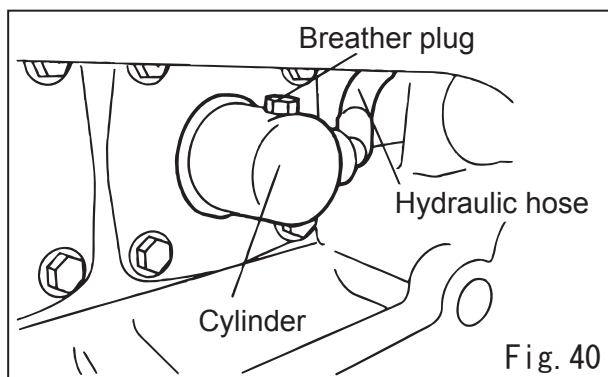

Fig. 40
④ Shortly after removing breather plug at the vibrator cylinder, oil starts to flow out of the plug hole. Wait until aeration disappears before replacing the plug. Tighten it securely. (See Fig.40)